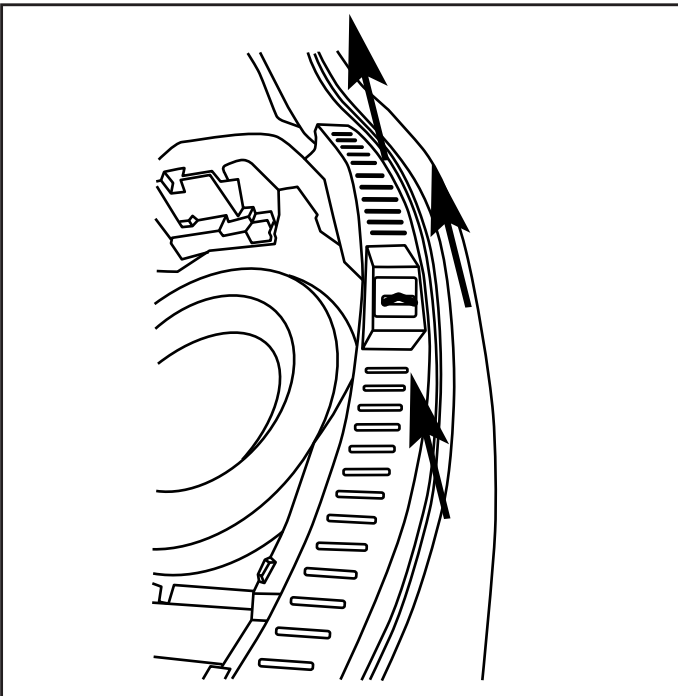

Fig. 10
11. Remove the trunk sill plate by lifting up with your hands to disengage the clips (Fig. 10).